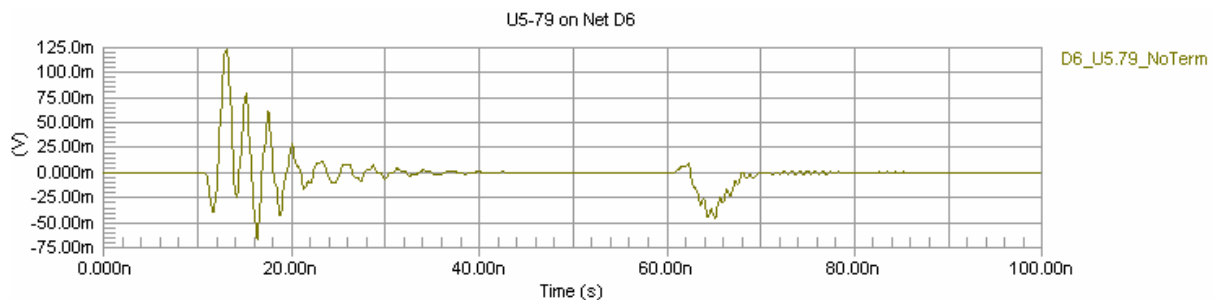

Figure 15. Crosstalk induced in D6 by D5 (D5 driven at 6mA – max crosstalk on pin 79 of U5).
7. In the generated chart we can see that up to about 125mV is induced in D6. (see chart "Crosstalk Analysis 6mA"). This maximum occurs at pin 79 of component U5 (Figure 15). As anticipated it should not be enough to cause any problems.